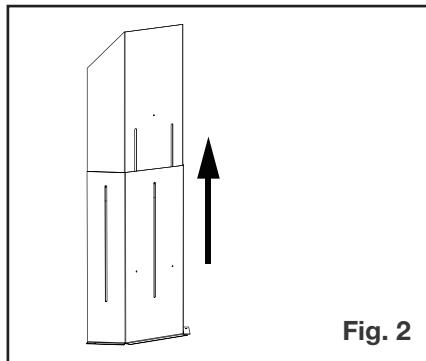

Fig. 2
2. Adjust vent shield to a minimum of 15" (**Fig. 2**).